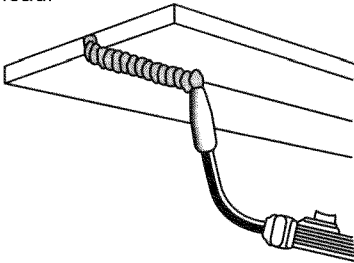

Figure 17. Overhead Position
4. The OVERHEAD POSITION (Figure 17) is the most difficult welding position because gravity is pulling at the weld puddle trying to make it drip off the work piece. Angle A (see HOLDING THE TORCH - p.20) should be maintained at 60 degrees, the same as in the flat position. Maintaining this angle will reduce the chances of molten metal falling into the nozzle should it drip from the weld puddle. Angle B should be held at zero degrees so that the wire is aiming directly into the weld joint. If you experience excessive dripping of the weld puddle, select a lower heat setting. Also, the weave bead tends to work better than the stringer bead when welding overhead.